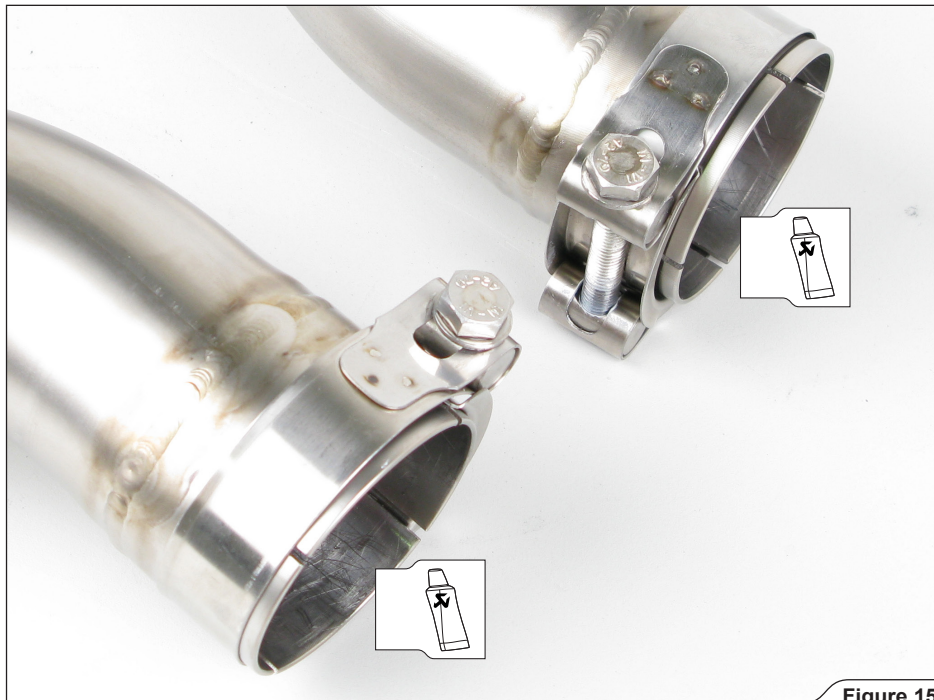

Figure 15
7. Apply the ceramic grease to the inlet bushes (Figure 15).